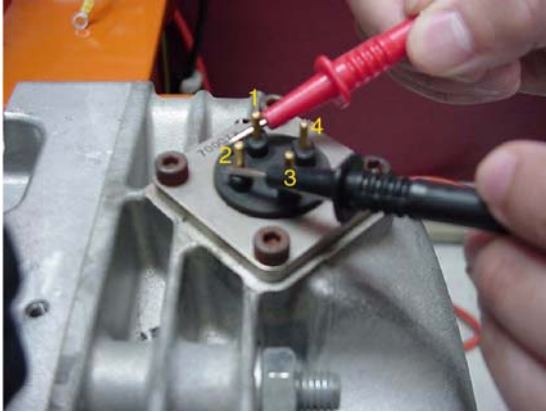

Figure 4-58 IGV Resistance Measurement (1 of 2)
4. Measure the resistance across pins 1 and 2, as shown in Figure 4-58. The meter should show a reading of $52.4\Omega \pm 5\%$.